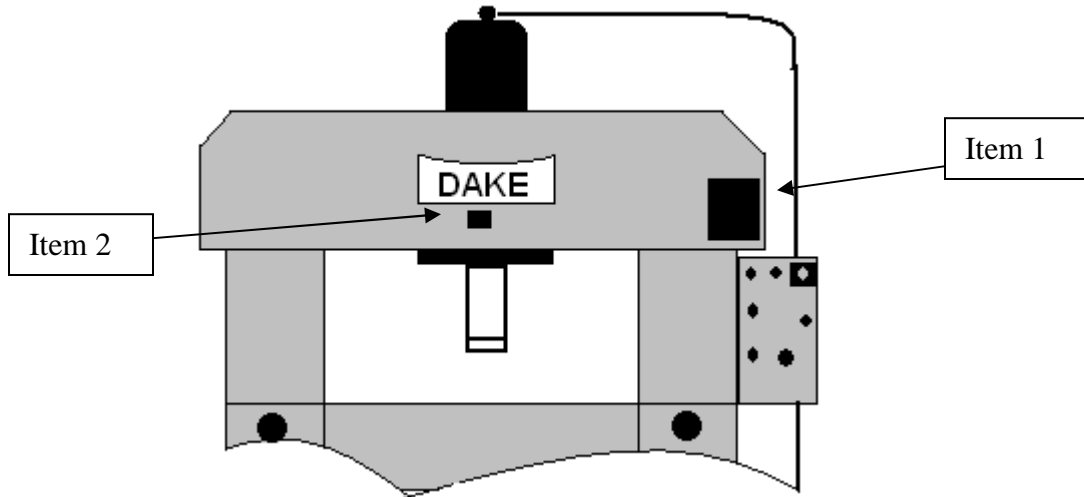

Fig. 1
The press is fitted with a rating plate fixed in a visible manner on the front as shown in Fig. 1 item 1 on next page. The Dake part number and serial number on the front name plate shown in Fig. 1 item 2.